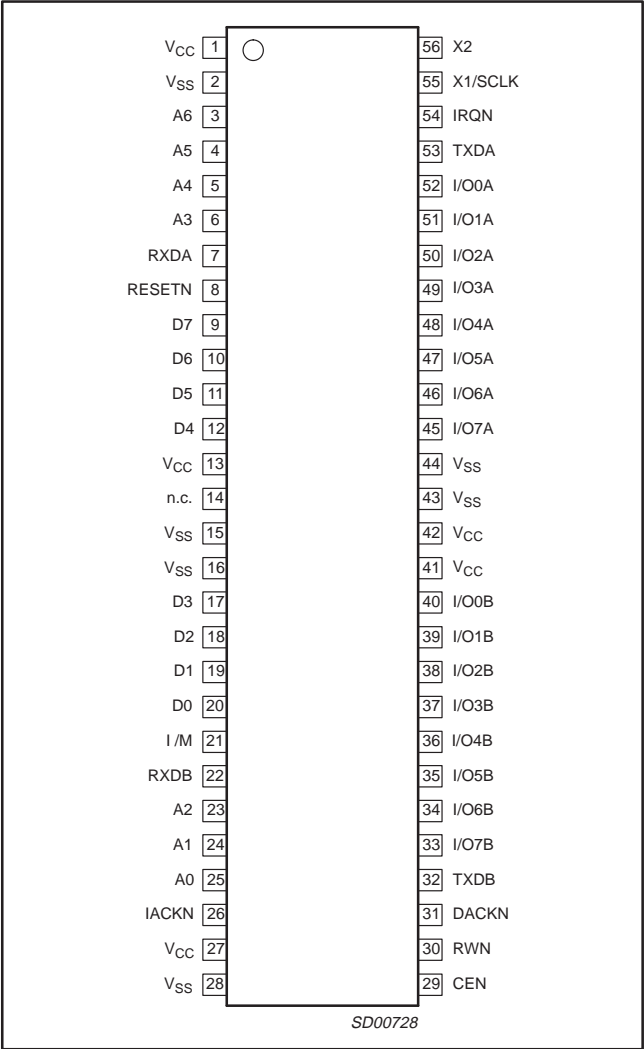

Figure 2. 68xxx TSSOP56
**CONFIGURATION FOR 68XXX BUS INTERFACE (MOTOROLA)** (see Figure 2)